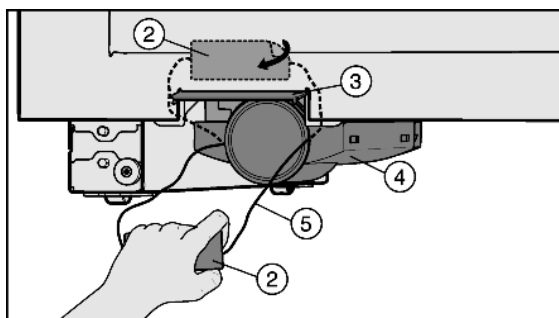

Fig. 73
- ▶ Remove any labels Fig. 73 (2) from the appliance.
- ▶ Open the filter change flap Fig. 73 (3).
- ▶ Carefully pull out drawer Fig. 73 (4) by the string Fig. 73 (5).
- ▶ Cut off the string Fig. 73 (5) together with the label Fig. 73 (2) and pull out. It is no longer required and can be disposed of.
- ▶ Close the filter change flap Fig. 73 (3).